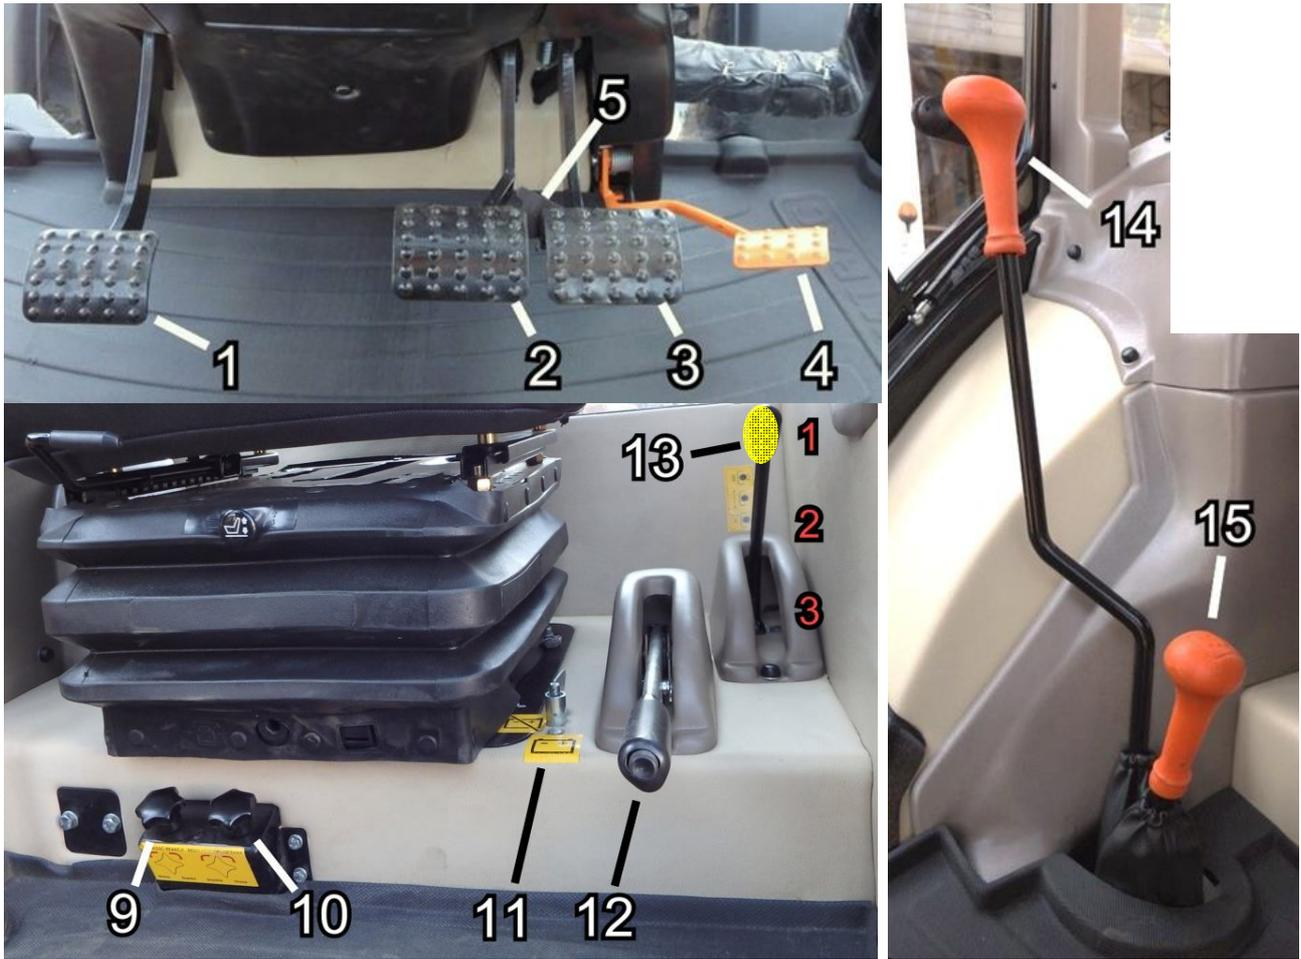

Fig. 3.4 Control levers and pedals, see description below
Control levers and pedals are shown at Fig. 3.4.
- Shift the PTO 540E lever only at PTO clutch (14 - Fig. 3.1) disengaged and PTO lever at neutral position (13 - Fig. 3.4).